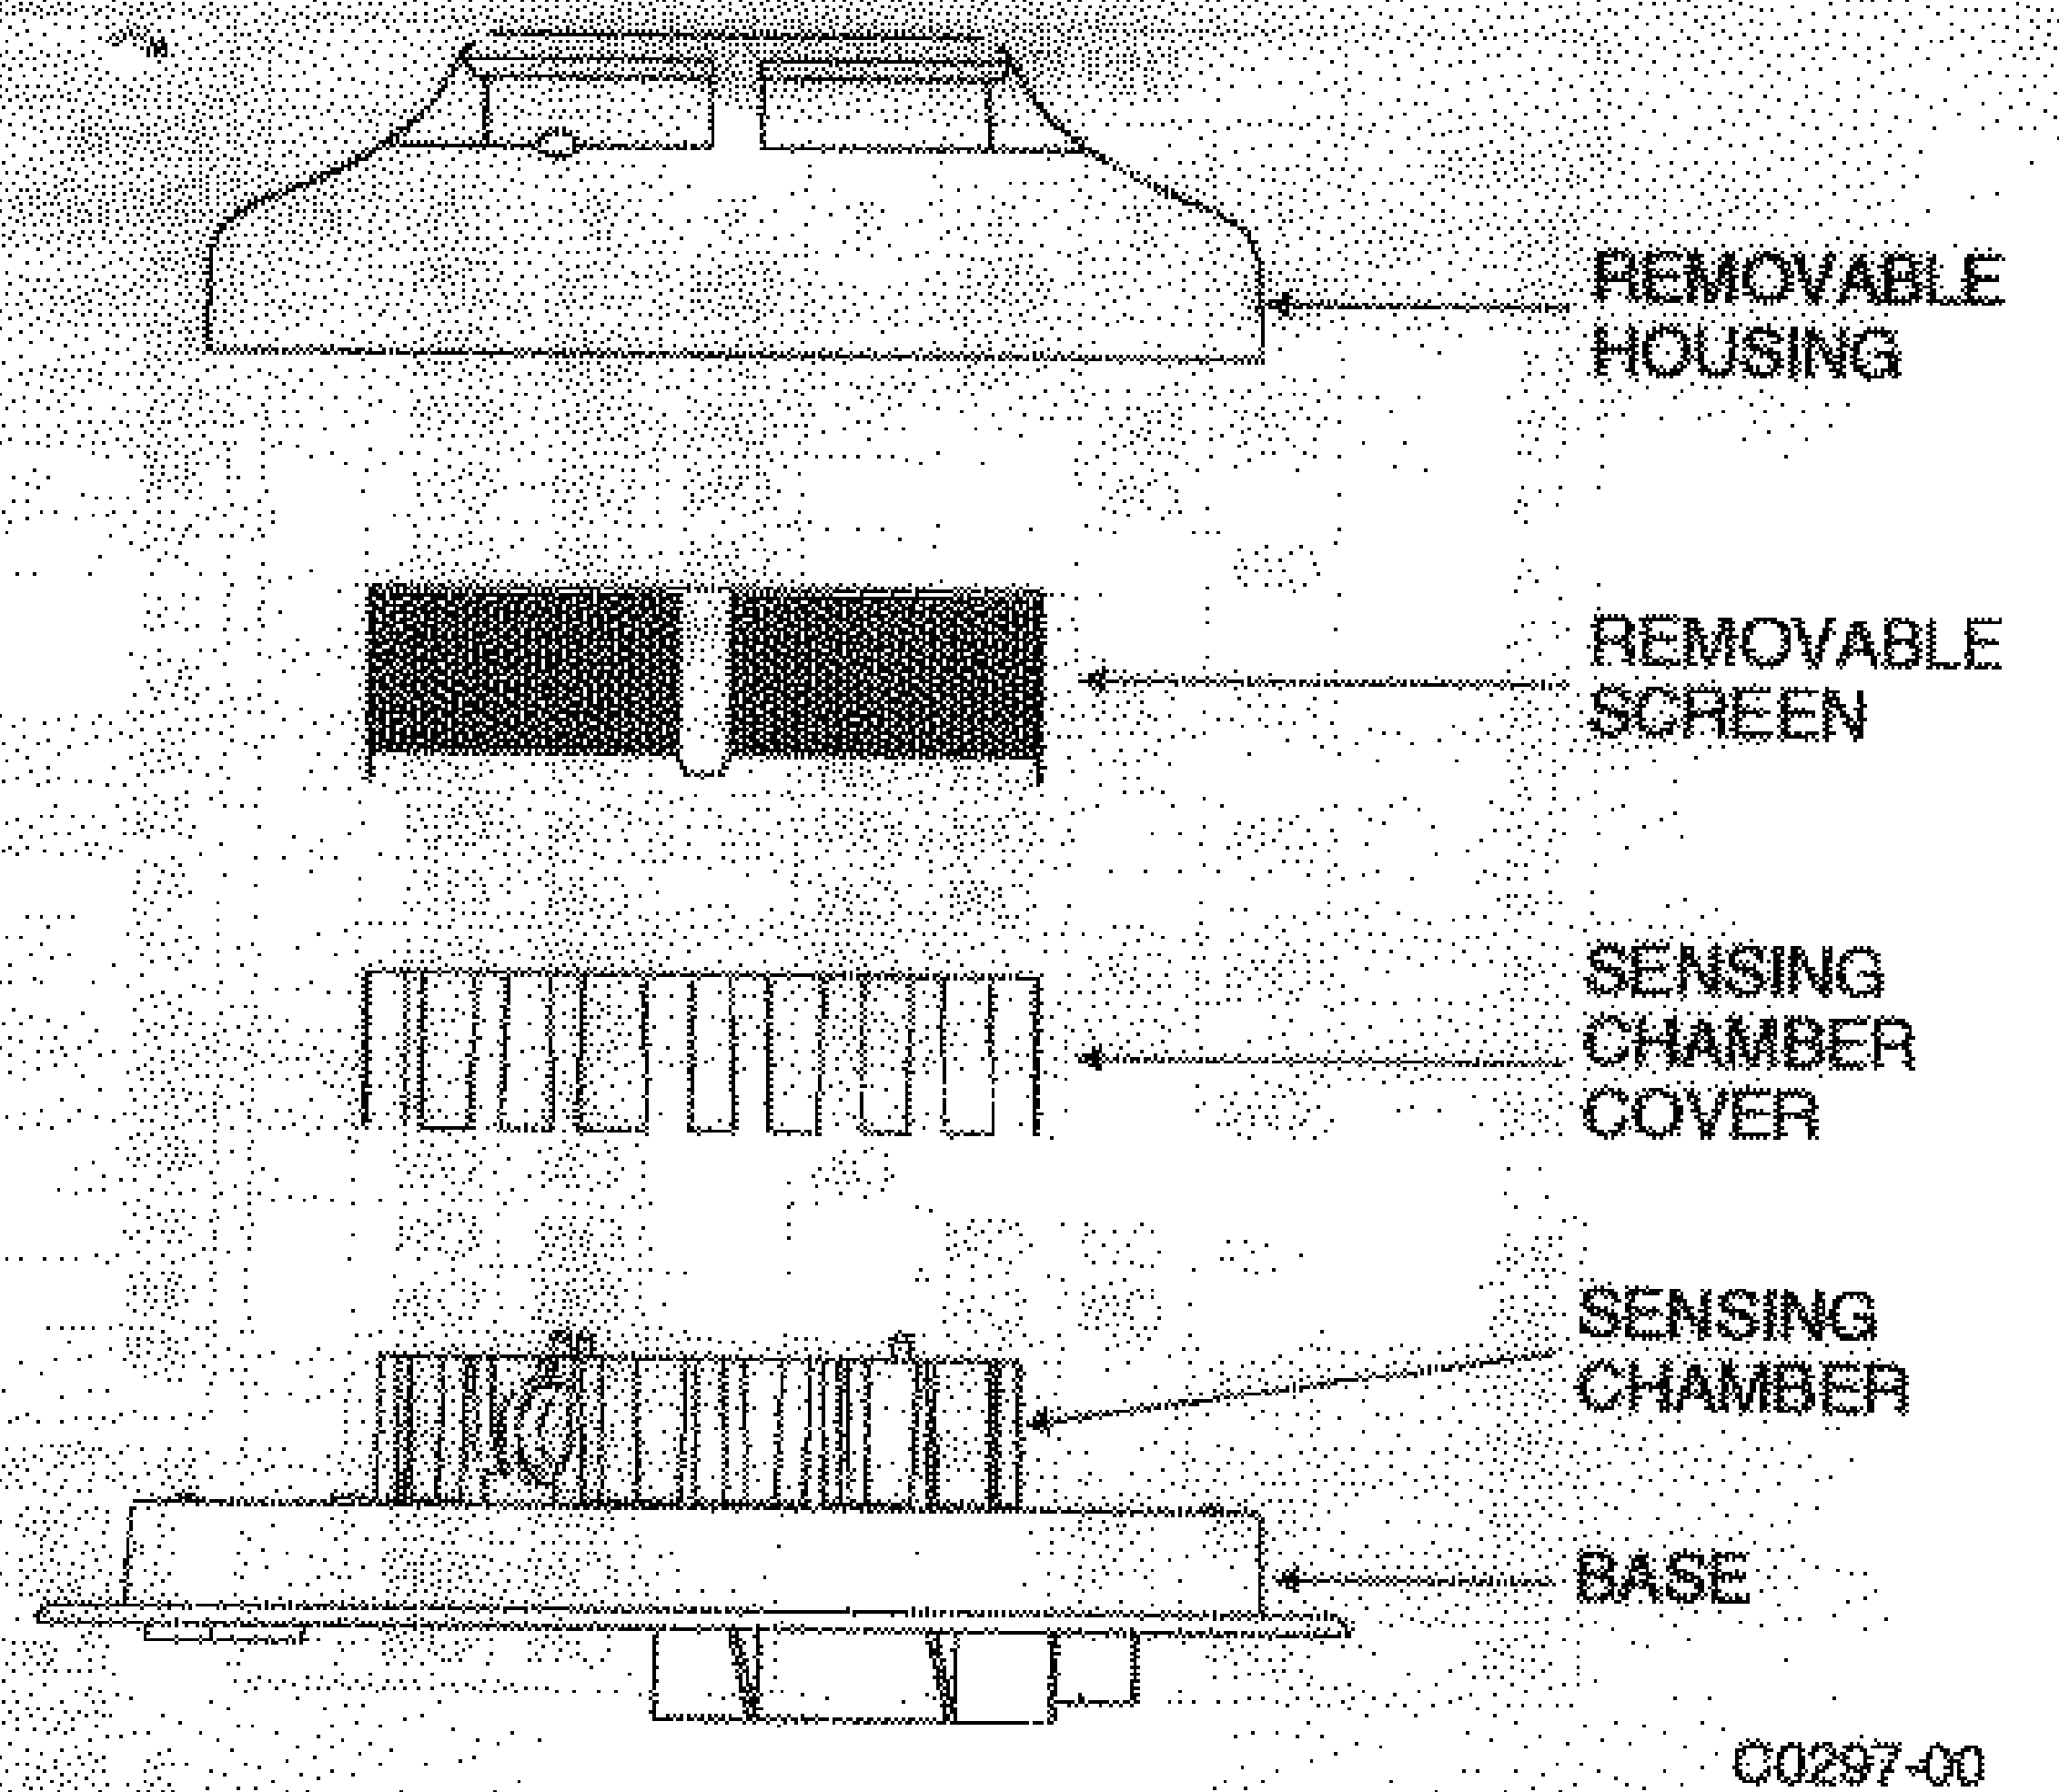

Figure 5. Removal of cover and screen for cleaning
3. Remove the screen assembly by pulling it straight out (see Figure 5). Remove chamber cover.